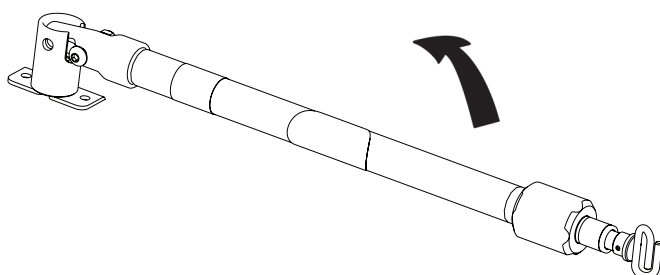

Figure 52.1 - 2-Stage I.V. Pole Storage Position
1. Lift and pivot the pole from the storage position and push down until it is locked into the receptacle (A).
2. To raise the height of the pole, turn the lock actuator (B) counterclockwise and pull up on the telescoping portion (C) of the pole to raise it to the desired height.
3. Turn the lock actuator (B) clockwise to lock the telescoping portion in place.
4. Hang the I.V. bags on the I.V. hook (D).
5. Turn the lock actuator (B) counterclockwise and slide section (C) into the bottom tube.
6. Turn the lock actuator (B) clockwise to tighten.
7. Lift up and pivot the pole down into the storage position (see Figure 52.1).